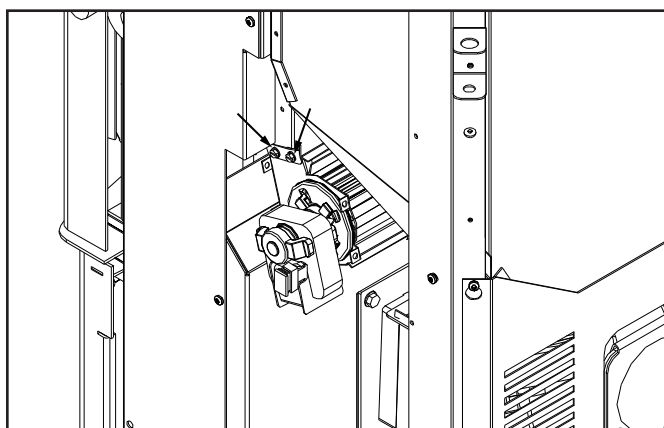

Figure 31: Behind the right cab panels.
3. Slide the fan into place between the bracket (see Figure 31 & 32).
4. Using a flat head screwdriver or a 1/4" (6mm) socket fasten the fan in place with two (2) screws on each side.